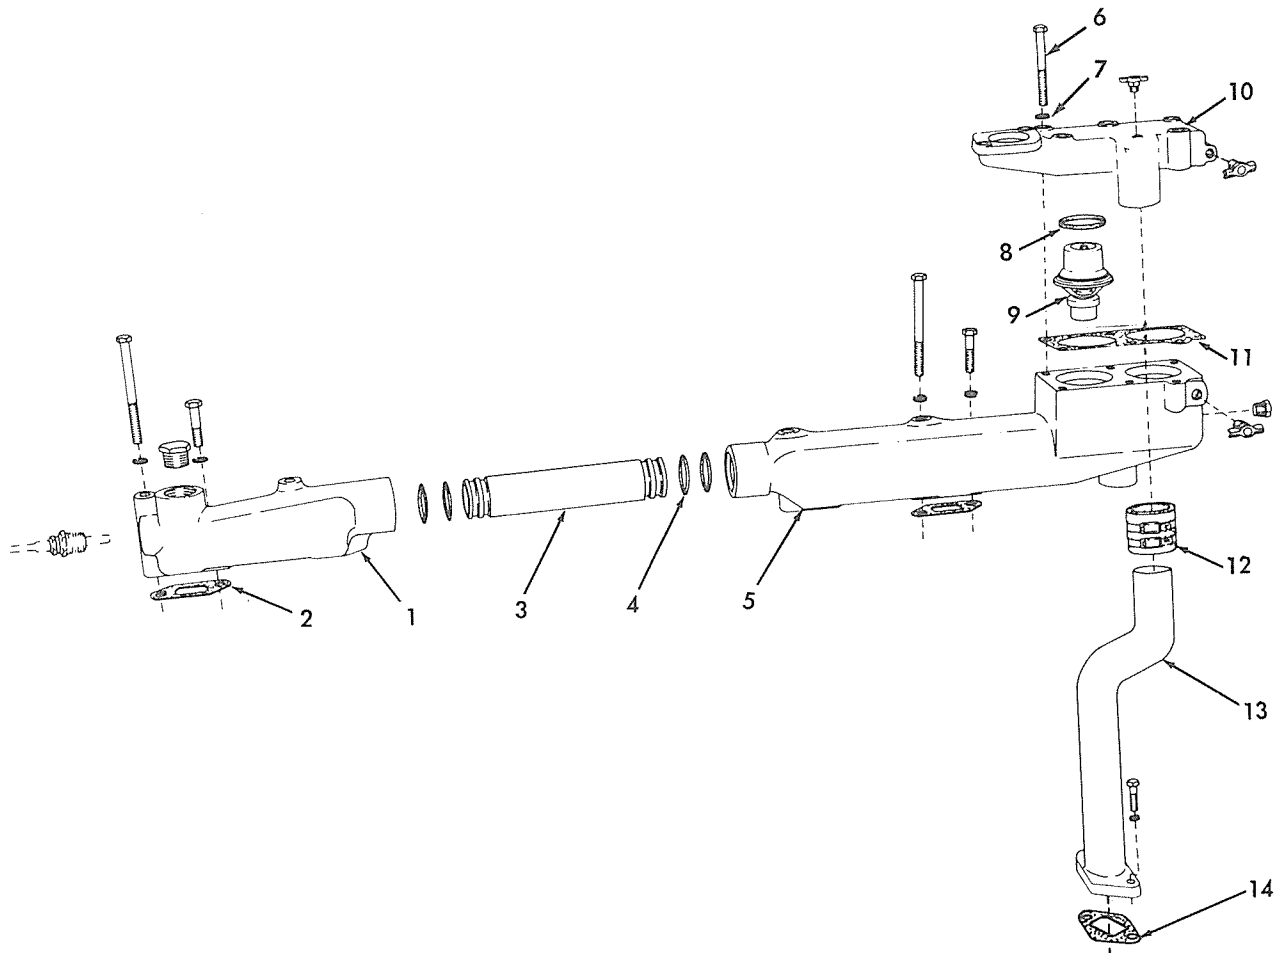

Fig. 12—Water Outlet Manifold Details
1. THERMOSTAT REMOVAL (Fig. 12)
- c. Remove capscrews (6) and lockwashers (7). Remove housing (10) and gasket (11). Remove thermostats (9).
- d. Clean and inspect housing (10) and examine gasket (11) and seals (8); replace gasket or seals if necessary.
3. THERMOSTAT INSTALLATION (Fig. 12)
- a. Place gasket (11) in position and install thermostats (9).
- b. Position housing (10) in position on manifold (5) and secure with capscrews (6) and lockwashers (7).